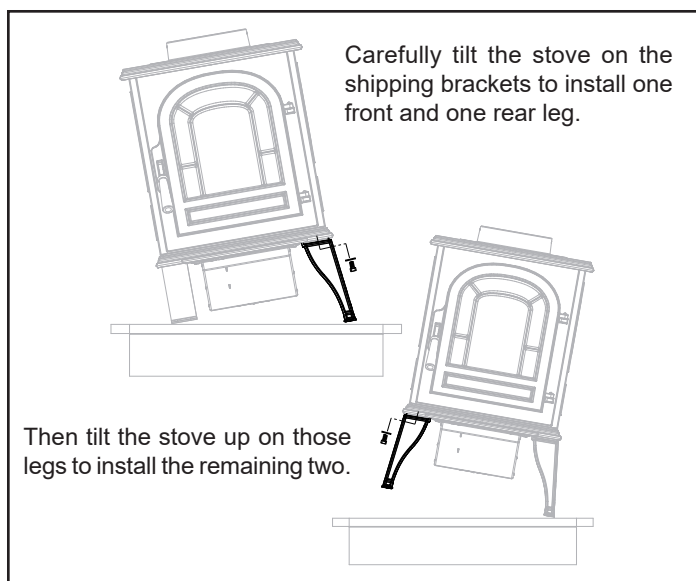

Figure 5.1 - Install legs on one side of stove then the other.
1. With your assistant holding the stove up on its side, remove (2) shipping brackets by removing the 3/8" Hex bolts and washers. **Note: DO NOT** discard these bolts and washers as they will be re-used to install the legs.
2. Place legs at each corner of the unit and install the 3/8" hex head bolts and washer previously removed. The shoulder of the legs should seat within the locator bosses cast into the stove bottom at each corner, Figure 5.1. Tighten the bolts with the wrench. **CAUTION: Overtightening can strip tapped threads.**